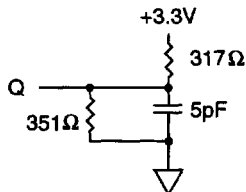

Figure 2
- The load used for V_{OH}, V_{OL} testing is shown in Figure 2. AC load current is higher than the shown DC values. AC I/O curves are available upon request.
3. This parameter is measured with output load as shown in Figure 2.